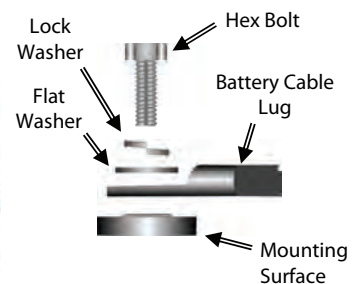

Figure 4 Battery Interconnect Bars and Hardware
4. Attach the interconnect bars to place the batteries in series. Batteries should be connected in series as appropriate to meet the voltage requirements of the system. Follow all instructions in the battery manual and use the recommended torque values. Install hardware in the order shown in Figure 4. Do not install hardware in a different order than shown unless specified by the battery manual or instructions.